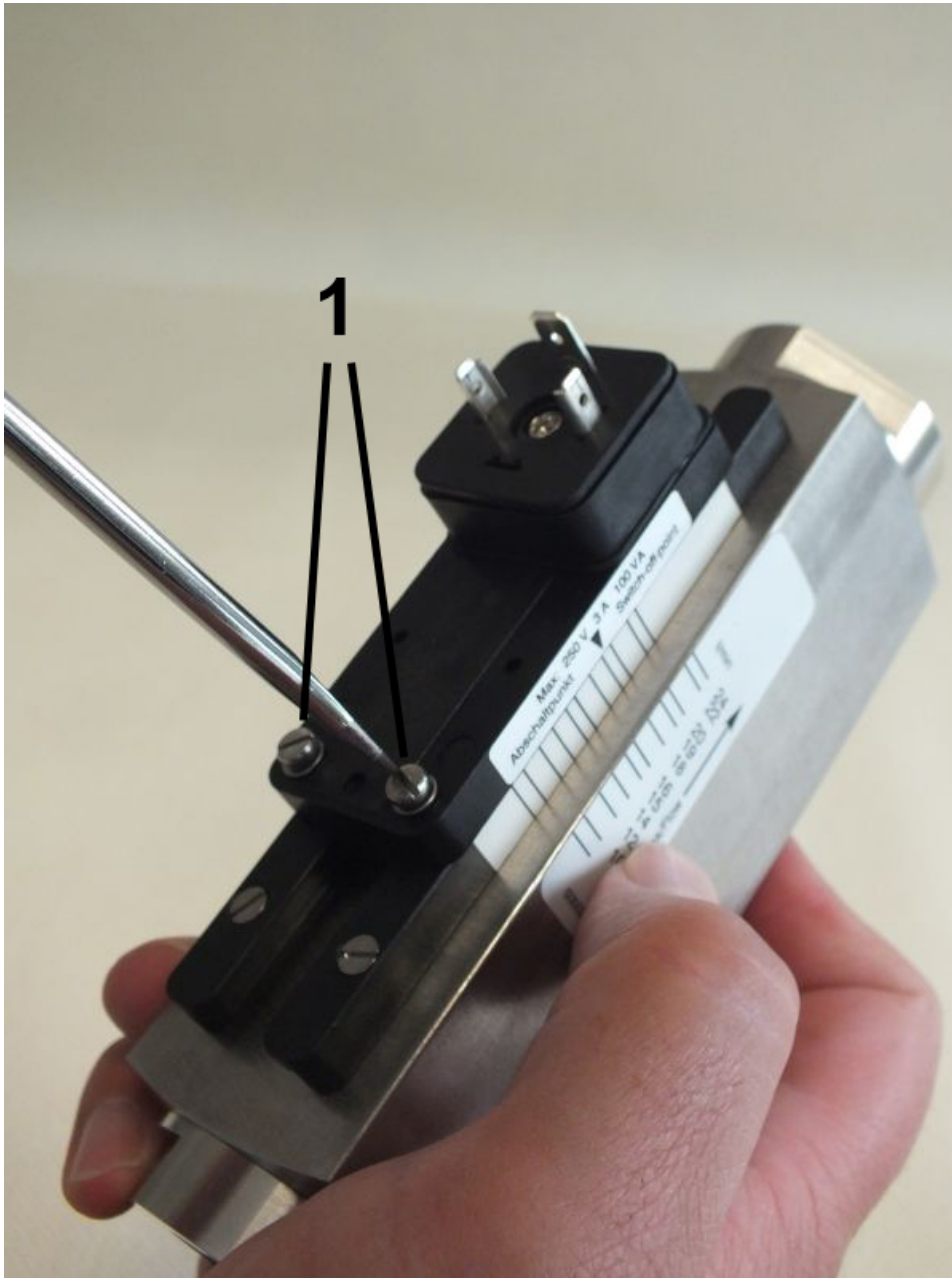

Fig. 40: Loosen the set screws
1. Loosen the set screws of the switch contact (Fig. 40/1) using a flat-bladed screwdriver.
3. Tighten the set screws of the switch contact (Fig. 40/1) using a flat-bladed screwdriver. When doing so, observe the correct tightening torque of the screws.